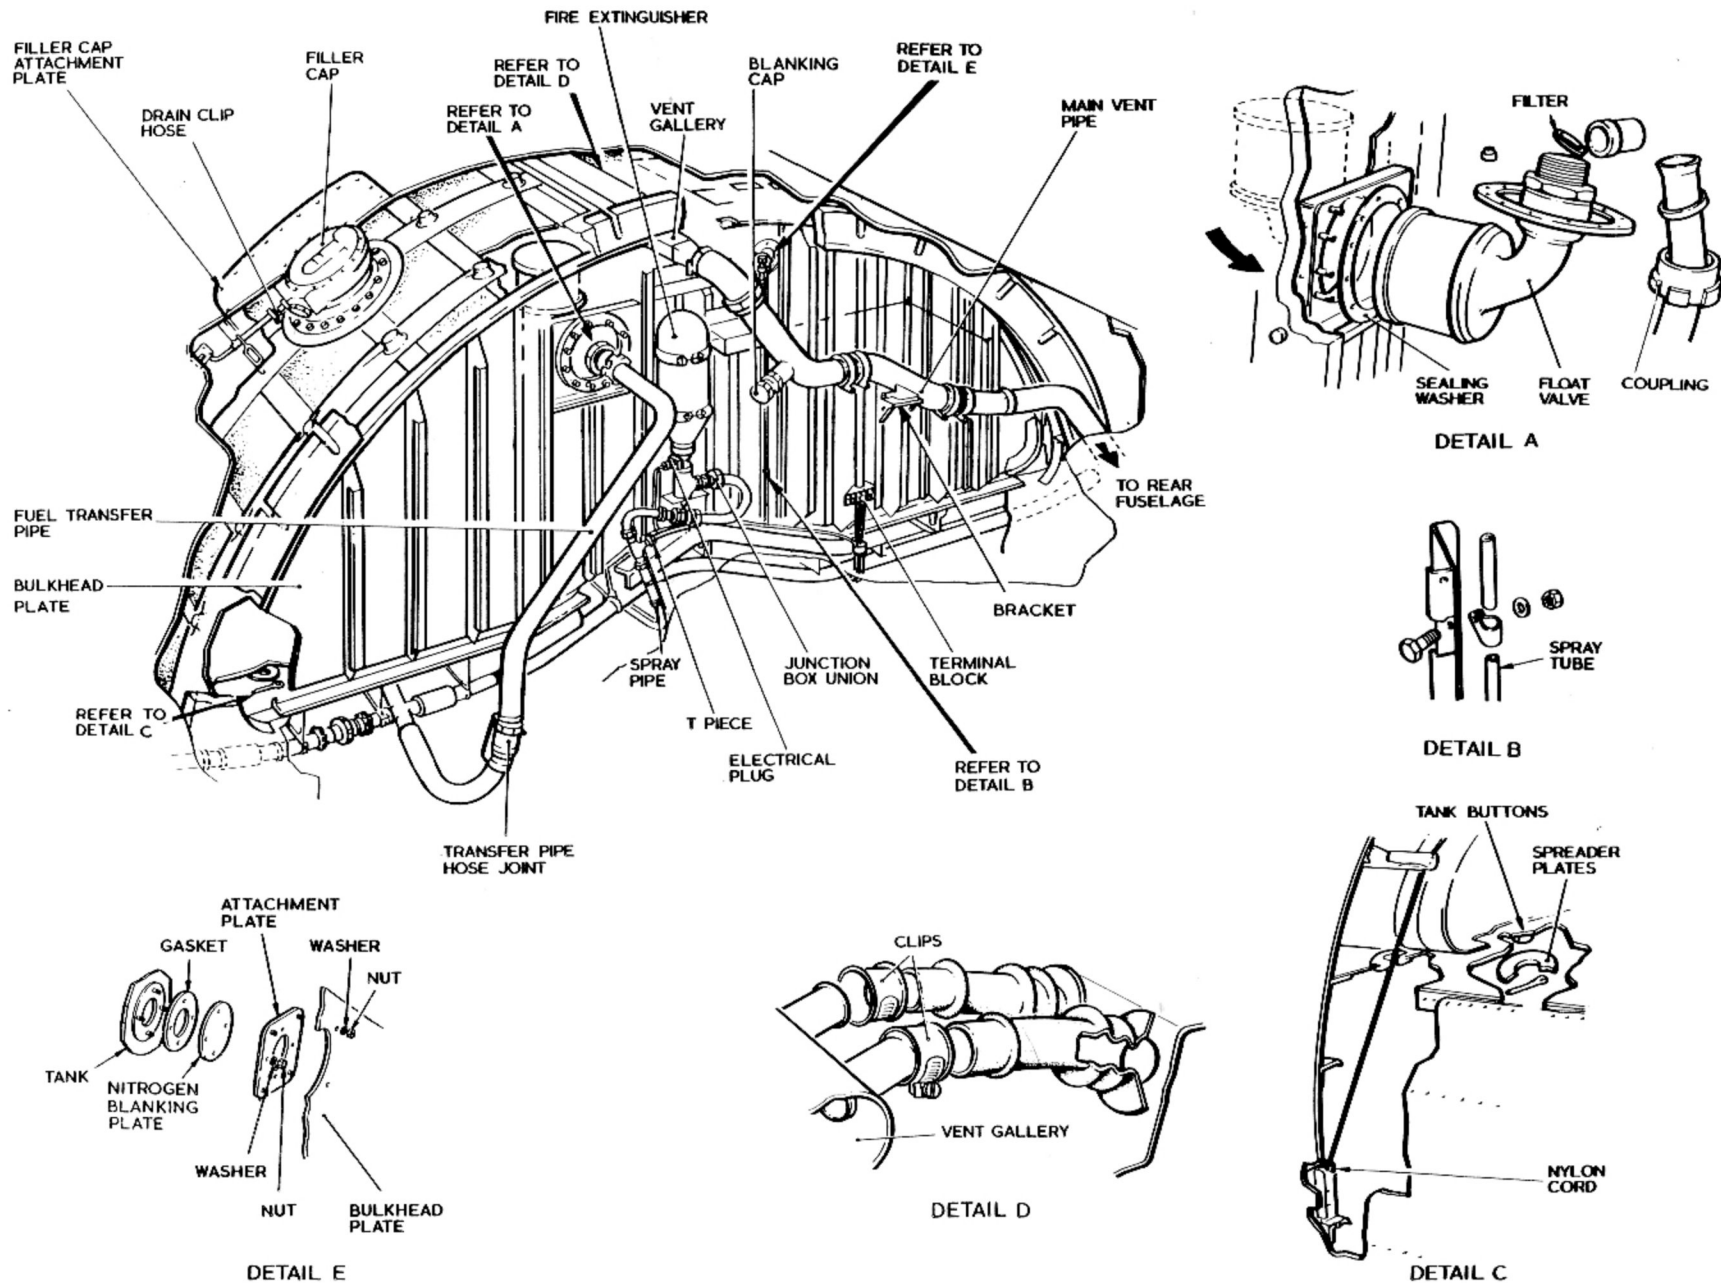

FIG. 9. No. 3. FUEL TANK REMOVAL
KEY TO FIG.9 (NO.3 TANK REMOVAL)
KEY TO FIG.9 (NO.3 TANK REMOVAL) - continued
2. Check that the felt pads (11) covering the nylon cord attachment lugs on the fuselage inner skin are secure.
3. Ensure that the order of assembly of the nitrogen blanking assembly is as shown in fig. 9, detail E; the position of the gasket in particular should be noted. Incorrect assembly will result in a fuel leak.